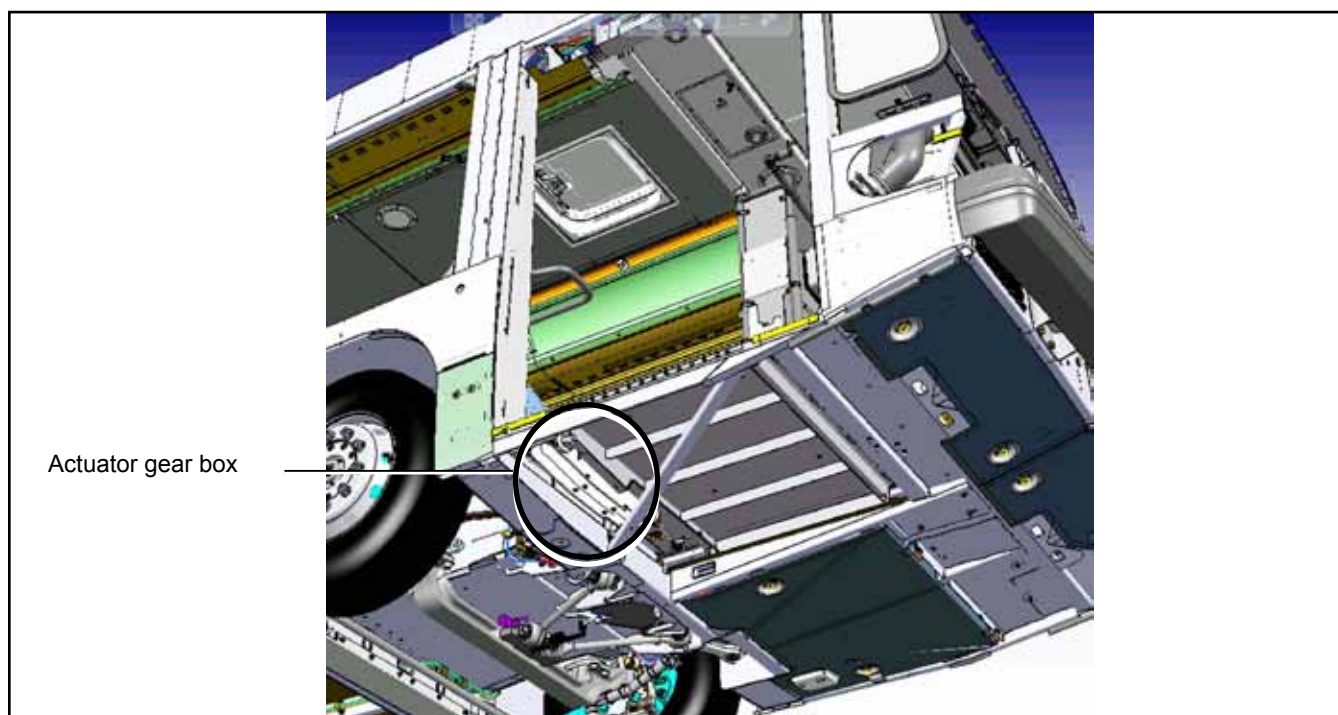

Figure 1 - Actuator Gear Box Location
1.1. Locate the access ramp actuator gear box. See Figure 1.